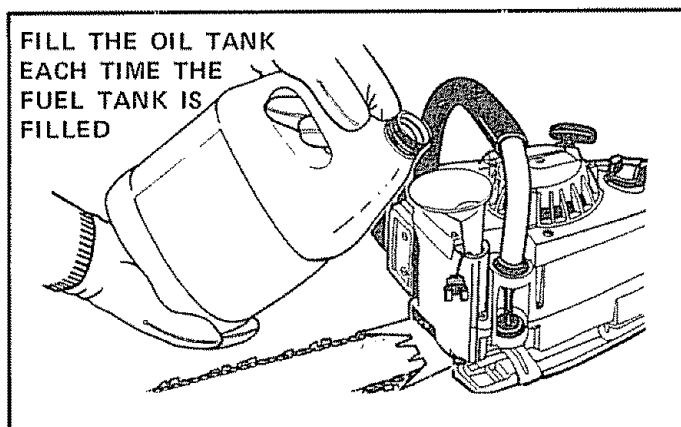

Figure 12
- b. Turn saw on its side with oil cap up. Figure 12.